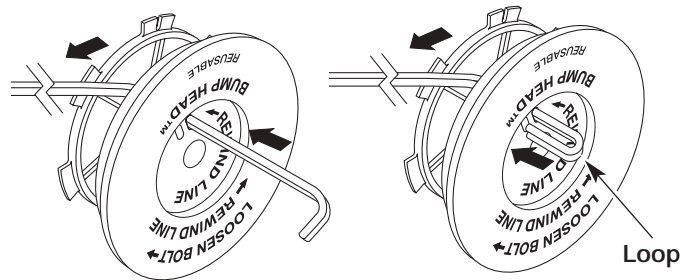

Fig. 17
- Insert the end of the line into the open hole in the inner reel and pull the line tight to make the loop as small as possible (Fig. 17).